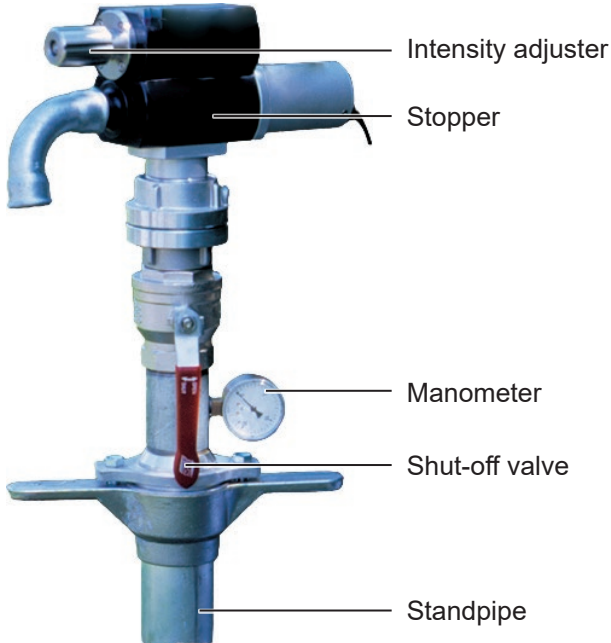

Fig. 5: Stopper on standpipe
5. Always turn the intensity adjuster on the stopper (fig. 5) all the way to the right initially (lowest intensity).